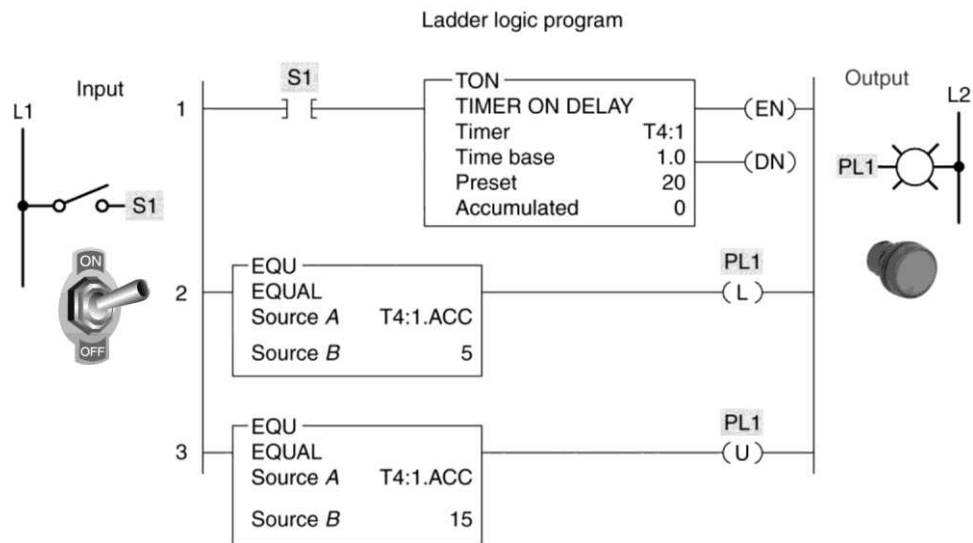

Figure 10-10 Timer program for question 17.
- 17-1. In the timer program of Figure 10-10, when switch S1 is closed 17-1. ____